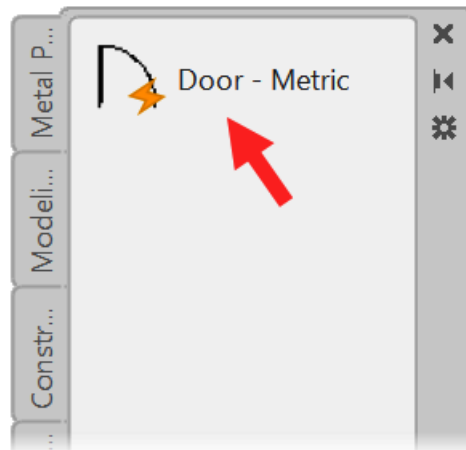

Figure 9.30: The Door – Metric dynamic block on the tool palette
10. Release the mouse button, and a **Door – Metric** block icon appears on the new palette, as shown in *Figure 9.30*. You can also see the lightning symbol, indicating it is a dynamic block.